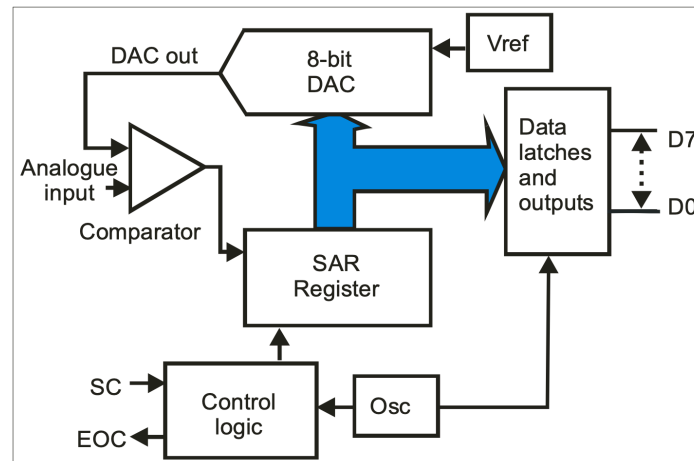

Figure 2a.
- a) Fully explain the operation of the analogue to digital converter (ADC) shown in Figure 2a. Start with the application of an unknown analogue voltage to the input and describe the conversion process to the output of an 8-bit binary code representing that unknown voltage.